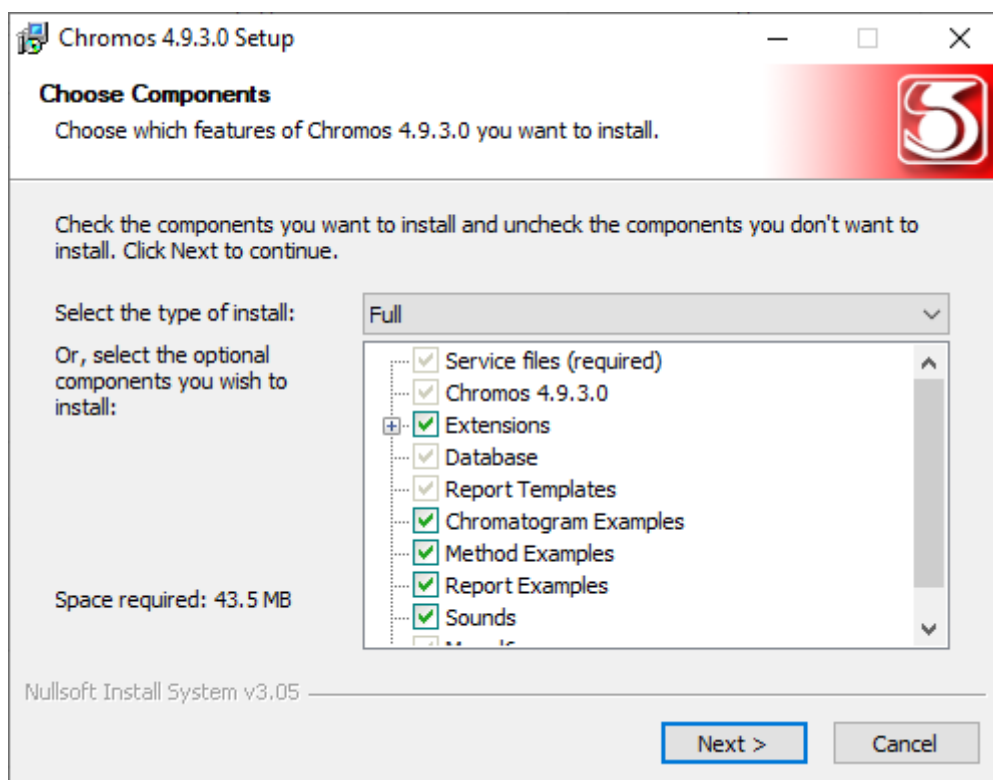

Fig. 1: Selecting system components to install
3. Select the components you want to install. Full installation is selected by default (Fig. 1).